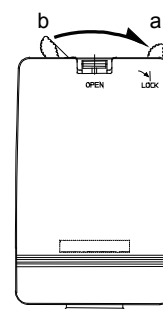

Figure 10. Fixing the main unit on the panel
- 4) Completely insert the probe into the panel. Then, fix the probe and the bracket by turning the stopper 45 degrees (from 'b' to 'a' shown in Fig. 10) to lock.